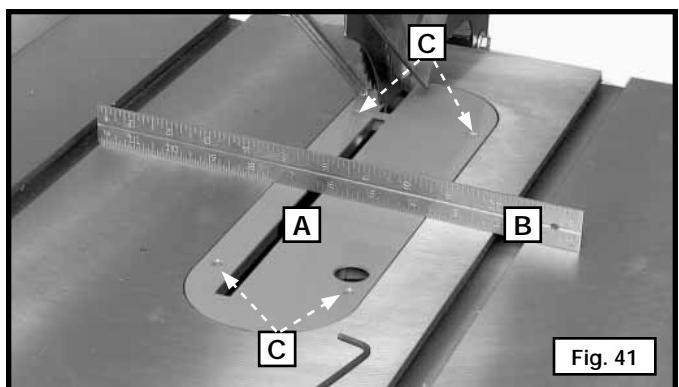

Fig. 41
Place a straight edge (B) across the table at both ends of the table insert (Fig. 41).
**⚠CAUTION** Ensure that the table insert (A) is level with the table.